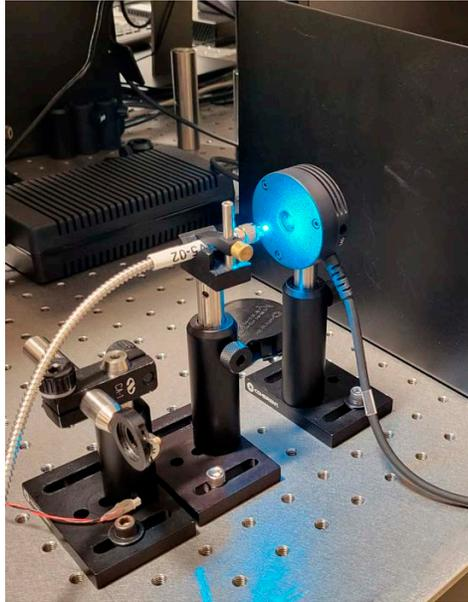

Figure 8-19. Laser Light at Fiber Output End
3. Use the software for laser operation to set the 488 nm channel to ON (with 10 mW output power setting). Refer to the example in Figure 8-19. There should be some visible light coming out of the fiber.